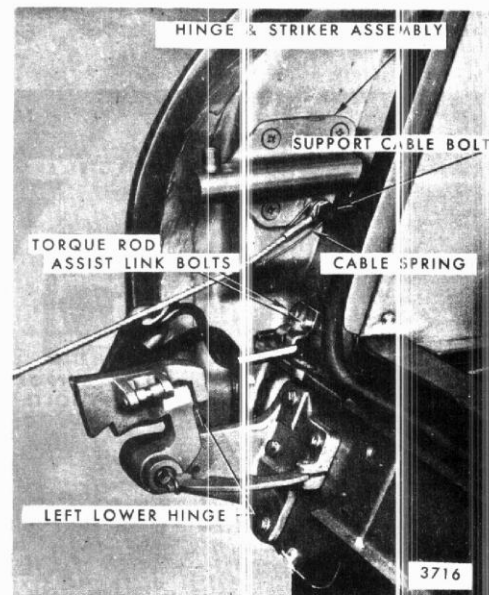

Fig. 9-29-Dual Acting Tail Gate Left Upper and Lower Hinge and Support Cable Attachment
5. Remove left lower hinge to body attaching bolts (Figure 9-29), then, remove hinge from body.
1. With the tail gate properly supported in an open (gate position) position, remove hinge and striker attaching screws (Figure 9-29) and remove assembly from left body pillar.
**NOTE:** The support cable spring, shown in Figure 9-29, must be reinstalled in depicted position to insure proper movement of cable during gate operation.